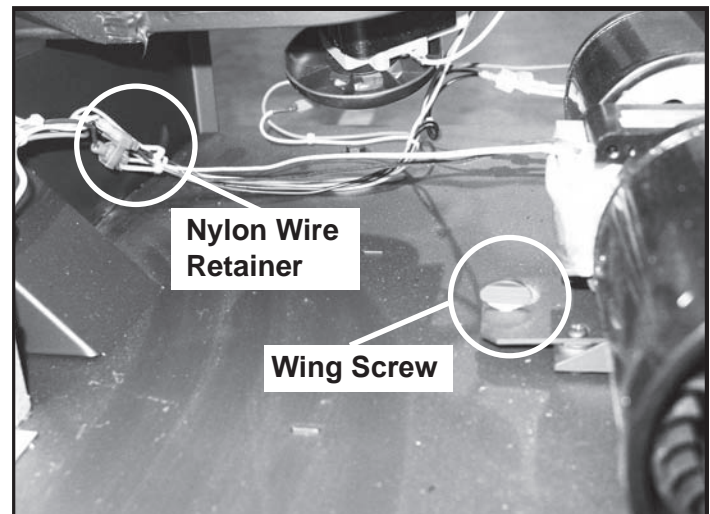
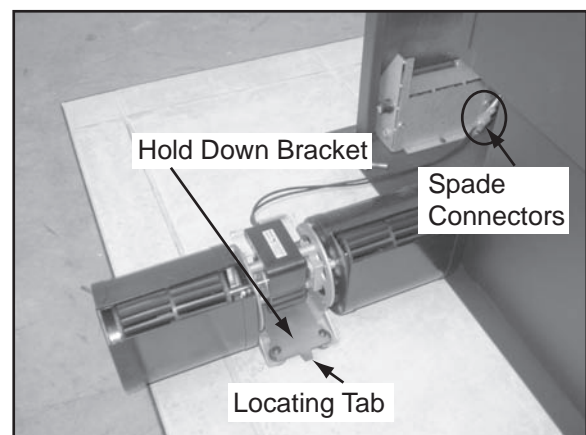

Figure 18.3
Figure 18.4
7. Remove the wing bolt and move the blower and hold-down bracket toward the back of the appliance to release the locating tab. **Figure 18.3.** Pull the blower out from under the convection plenum. Slide the blower out of the appliance. Disconnect the wires from the spade connectors at this time. **Figure 18.4.**
8. Return wires to nylon wire retainer. Make sure wires do not contact any moving parts or touch any surfaces that may become hot **Figure 18.4.**